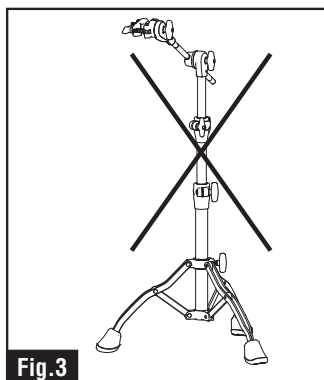
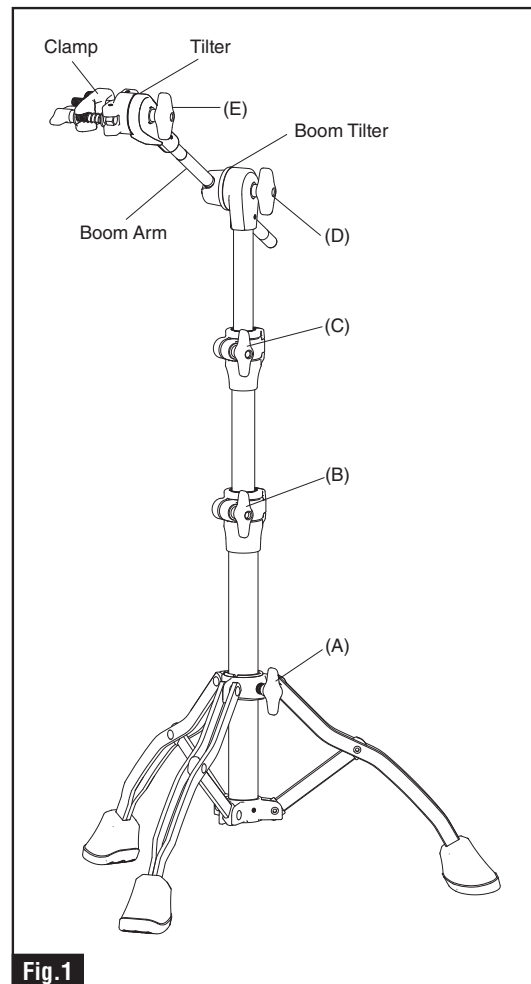

Fig.3
Fig.1
- When extending the boom arm, make sure it is placed over one of the base legs, as shown in Fig.1., as to prevent the stand from tipping over due to incorrect weight distribution or normal play. Do not extend the boom arm between two base legs, as show in Fig. 3.